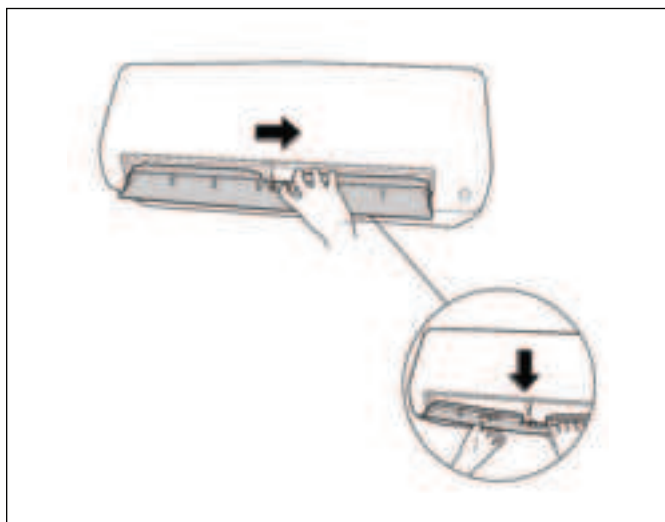

Figure 67
3. Bend the horizontal louver lightly to loosen the hooks, then remove the horizontal louver. (see Figure 67)